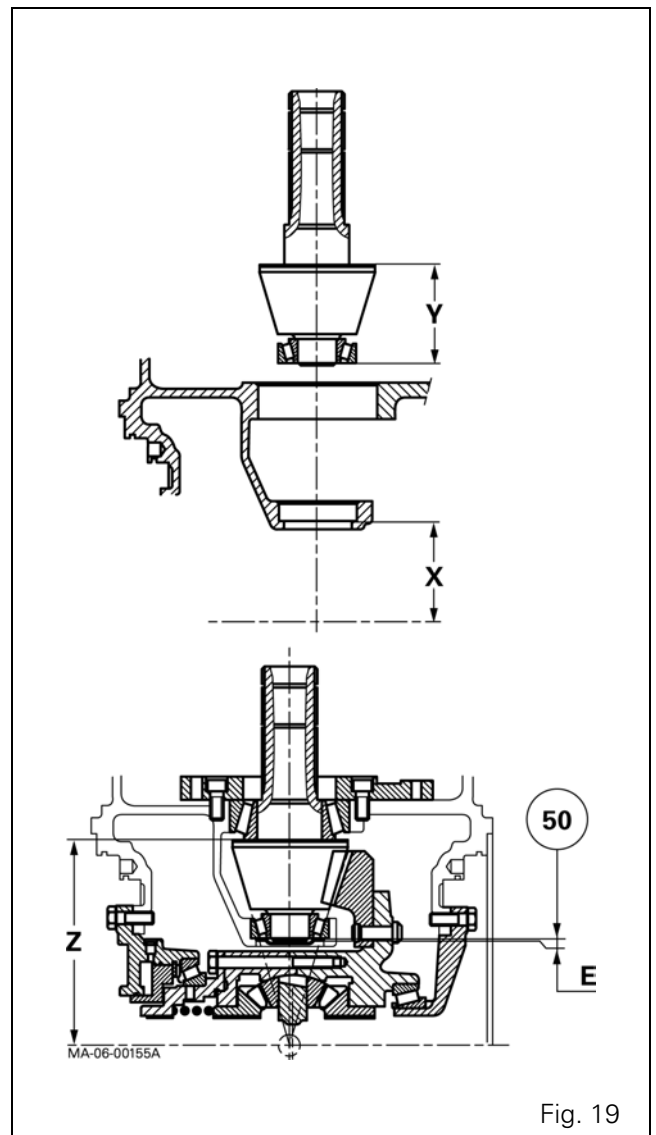

Fig. 19
The thickness of shims "E" (50) (Fig. 19) required to position the drive pinion is calculated as follows: